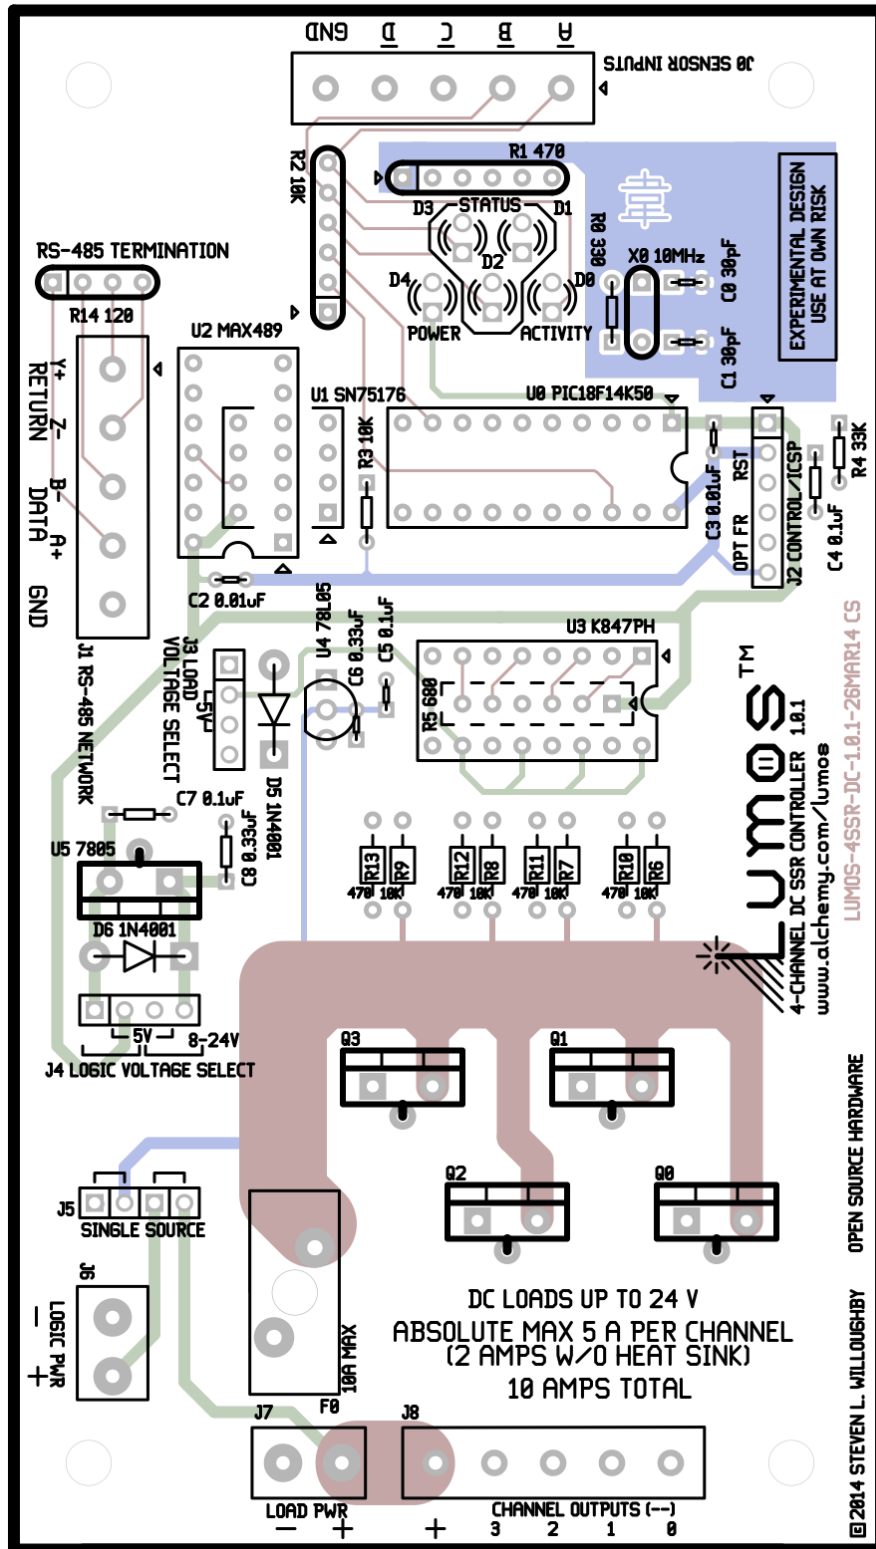
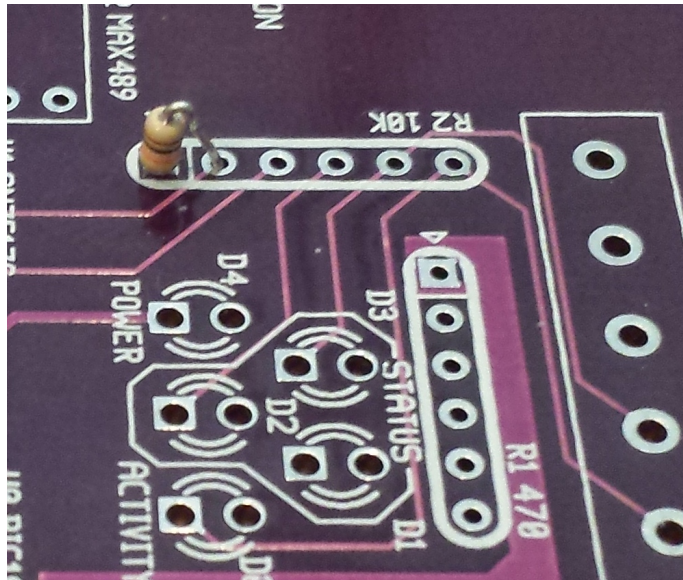

Figure 5.1: Lumos Board Parts Placement Diagram
Figure 5.3: Discrete R2 Resistor If No Sensor Inputs Are Used
Refer to Figure 5.1 throughout these instructions to see where the components are located on the PCB. The locations are also labeled on the PCB itself.
1. Install a $330\ \Omega$ resistor in position R0 as marked on the PCB and Figure 5.1. This is marked with the color bands “orange-orange-brown.” Push it all the way until flush with the PCB.
4. Repeat steps 1–3 to install (5) 10 K resistors (“brown-black-orange”) at R3 and R6–R9.
5. Repeat steps 1–3 to install (4) $470\ \Omega$ resistors (“yellow-violet-brown”) at R10–R13.
7. **If you will *not* be installing sensor inputs**, you will not install the 10 K resistor network at R2. However, you will instead install a single 10 K resistor between pins 1 and 2 of R2. See Figure 5.3 for a photo of what this looks like.
8. In the same fashion, install and solder (2) 30 pF or 33 pF capacitors into positions marked C0–C1.
9. Install and solder (2) $0.01\ \mu\text{F}$ capacitors into positions C2–C3.
10. Install and solder (3) $0.1\ \mu\text{F}$ capacitors into positions C4, C5, and C7.
11. Install and solder (2) $0.33\ \mu\text{F}$ capacitors into positions C6 and C8.
12. Install (2) 1N4004 diodes at D5 and D6. **Note: These parts will not function if inserted the wrong direction.** Each diode has a stripe on one end. This end is inserted into the hole marked by the straight line (cathode) drawn on the PCB. The unmarked end goes into the hole marked by the triangle (anode). Solder into place.
13. Install (2) green LEDs at D1 and D4. **Note: These must be inserted in the correct orientation.** The longer lead (anode) goes into the square hole, while the shorter lead (cathode) goes into the round hole. Solder into place.
14. Install (2) yellow LEDs at D0 and D2, noting the cautions from the previous step. **Note: if you will be using sensor inputs, you may wish to omit D0 and/or D2. See Chapter 7 for details before installing these parts.** Solder into place.